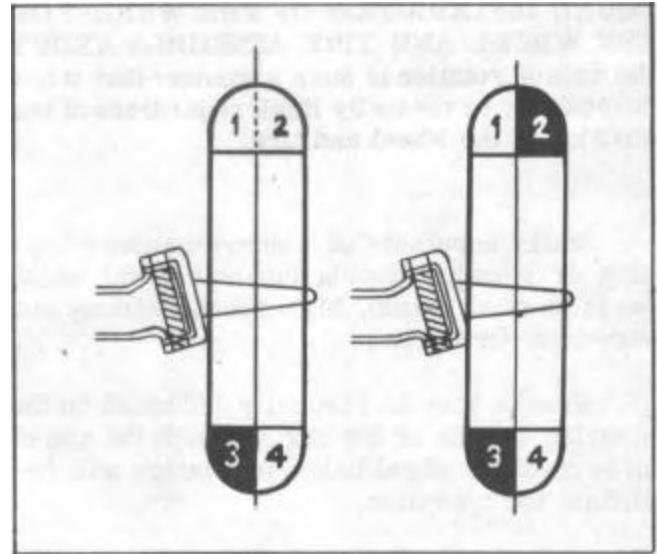

FIGURE 1
Statically-- Figure 1
Static unbalance of a tire and wheel causes the heavy portion (3) to go to the bottom as in Figure 1 and to obtain a true static balance, weights will have to be added on the rim opposite the heavy portion that went to the bottom. Gradually move the weight apart, equal distances from starting point until wheel is in balance.
To balance the wheel and tire assembly a piece of putty may be used instead of fastening the regular weights onto the rim. The quantity of putty may be added to or reduced until the static balance is obtained, as in Figure 1.
The putty can then be weighed and balanced weight or weights attached permanently to the rim to correspond to the weight of the putty. The sum of the weights of section (1) and (2) is equal to the sum of the weights of section (3) and (4), Figure 1. The weight, therefore, is equally distributed about the axis of rotation. The weight at (2) being balanced by the weight at (3). However this wheel is not in dynamic balance because section (1), Figure 1 is lighter than section (2) and section (4) is lighter than section (3).
The wheel and tire is in static balance as shown in Figure 1, however, with reference to the center line, section (1) is lighter than section (2), also section (3) is lighter than section (4).